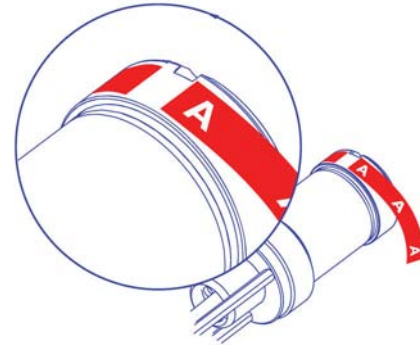

FIG. 6
3. Use labels (70) provided to identify the appropriate pump for your material. See FIG. 6.